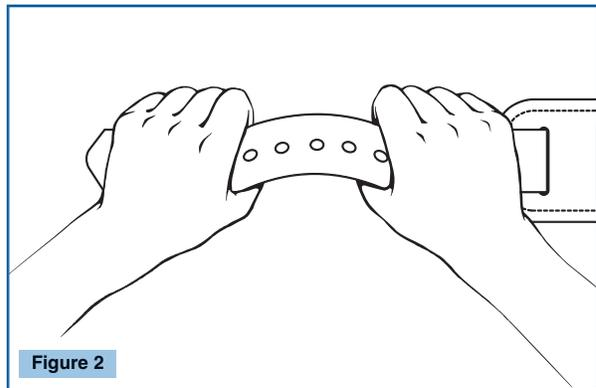

Figure 2
- 1. Straps, stitching, and webbing.** Check entire length of the strap for excessive wear. Inspect the tongue or billet end carefully. This end is subject to considerable wear as a result of repeated buckling and unbuckling of the belt. Also, check for torn or excessively enlarged buckle-tongue holes. Check stitching for broken, cut, or pulled stitches. Check webbing for broken strands that appear as tufts on the surface. (See Fig. 2)